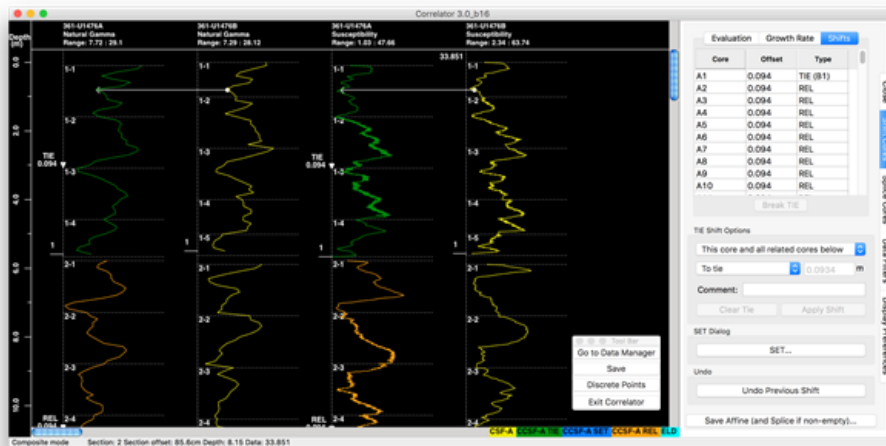

Figure 3-26. First tie is completed.
- Once you commit to the shift, the following happens (Fig. 3-26):
- The shift table shows the offset amount of the SHIFT core (and all cores below, if that was the selection), and indicates the REF core used for the shift (B1 in Fig. 3-26 example).
What happens when you change your mind about a tie between two cores and want to redo it? Or what if you created a chain using cores from the first two holes, and now core data arrive from the third hole and it makes sense to “weave them in”? The latter scenario is exemplified by Fig. 3-26 where it is obvious that the first core gaps in the first two holes align exactly, meaning that correlation of the first two cores to subsequent cores is not possible using only Holes A and B. We are therefore introducing additional data from a third Hole D.